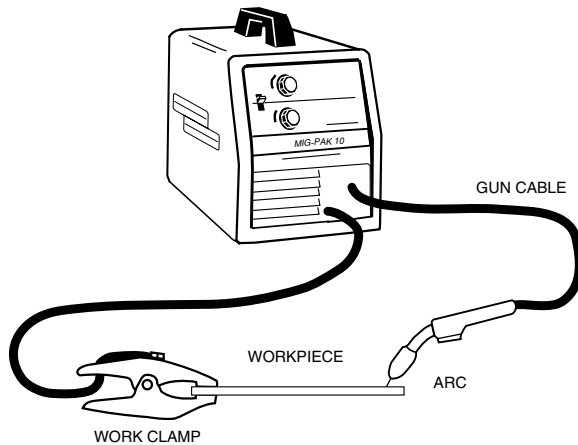

Figure 12
6. Refer to Figure 12. Connect work clamp to metal to be welded. Work clamp must make good electrical contact to the workpiece. The workpiece must also be grounded as stated in "Arc Welding Safety Precautions" in the beginning of this manual.